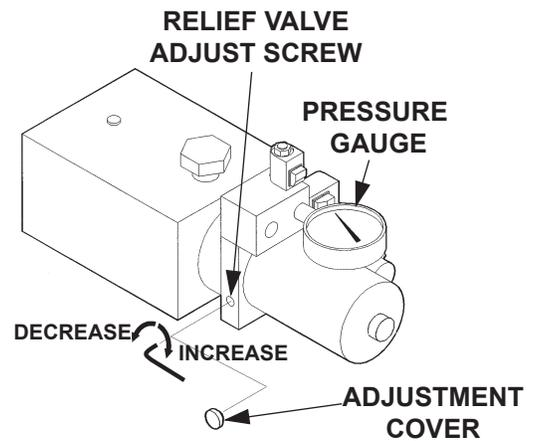

FIG. 53-1
8. With platform on the ground, remove the pressure hose and fitting from the pump and replace it with a 0-3000 PSI pressure gauge. Hold the control switch in the **UP** position. Adjust the relief valve on the side of the pump until the gauge shows 2200 PSI (**FIG. 53-1**). Remove gauge and reinstall pressure hose.